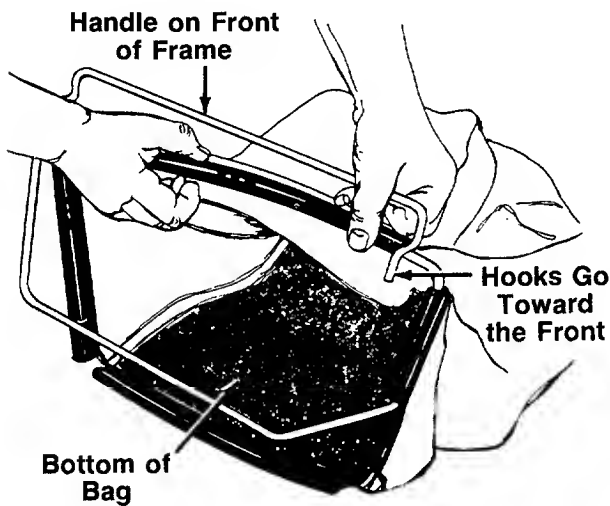

FIGURE 10.
1. Place bag over frame (black plastic side is the bottom of bag). Handle on frame goes to the top of bag. Hooks go toward the front. See figure 10.
2. Secure bag to frame by slipping plastic channels on bag over frame. See figure 10.